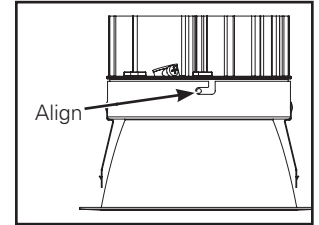

Figure 30.
2. Insert LED module into reflector. Align LED module screw holes with lower reflector screw slots (Figure 30.).